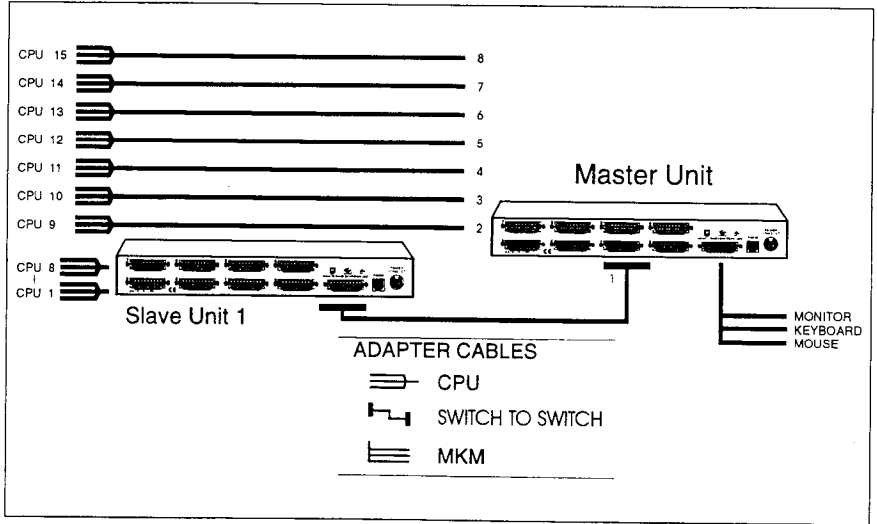

Figure 4. Expansion system layout
Slave units can be added to your ServeView Plus system as you need them. For each slave you add to the system, you gain n-1 additional ports, where n is the number of ports on the slave unit. As Figure 4 shows, adding a single 8-port slave to an 8-port master unit gives you 15 ports. Adding a second 8-port slave unit will give you 23 ports, and so forth. Using 8-port units only the maximum number of computer is 64. If you use 16-port units, you can connect up to 256 computers. You can mix 2, 4, 8, 12, and 16 port units together, but the number of ports on each slave unit should be equal.
Laying out the ServeView Plus system prior to installation will make the installation process go more smoothly. It will also prevent confusion during operation by ensuring that the CPU selection numbers you use in the keyboard commands remain consecutive. Figure 4 illustrates the proper layout and numbering of your slaves and CPUs.
As illustrated in Figure 4, when connecting slave units, connect the MKM connector of the first slave to the master's CPU 1 connector. Connect the second slave's MKM connector to the master's CPU 2 connector. This ensures the CPU selection numbers you use in keyboard commands remain consecutive.
4. From the keyboard attached to the master unit, use the units command to configure the number of expansion units (a value of one for the example in Figure 4). See page 15 for more information on the units command.
5. From the keyboard attached to the master unit, use the width command to configure the number of computers on the expansion unit (a value of eight for the example in figure 4). See page 15 for more information on the width command.